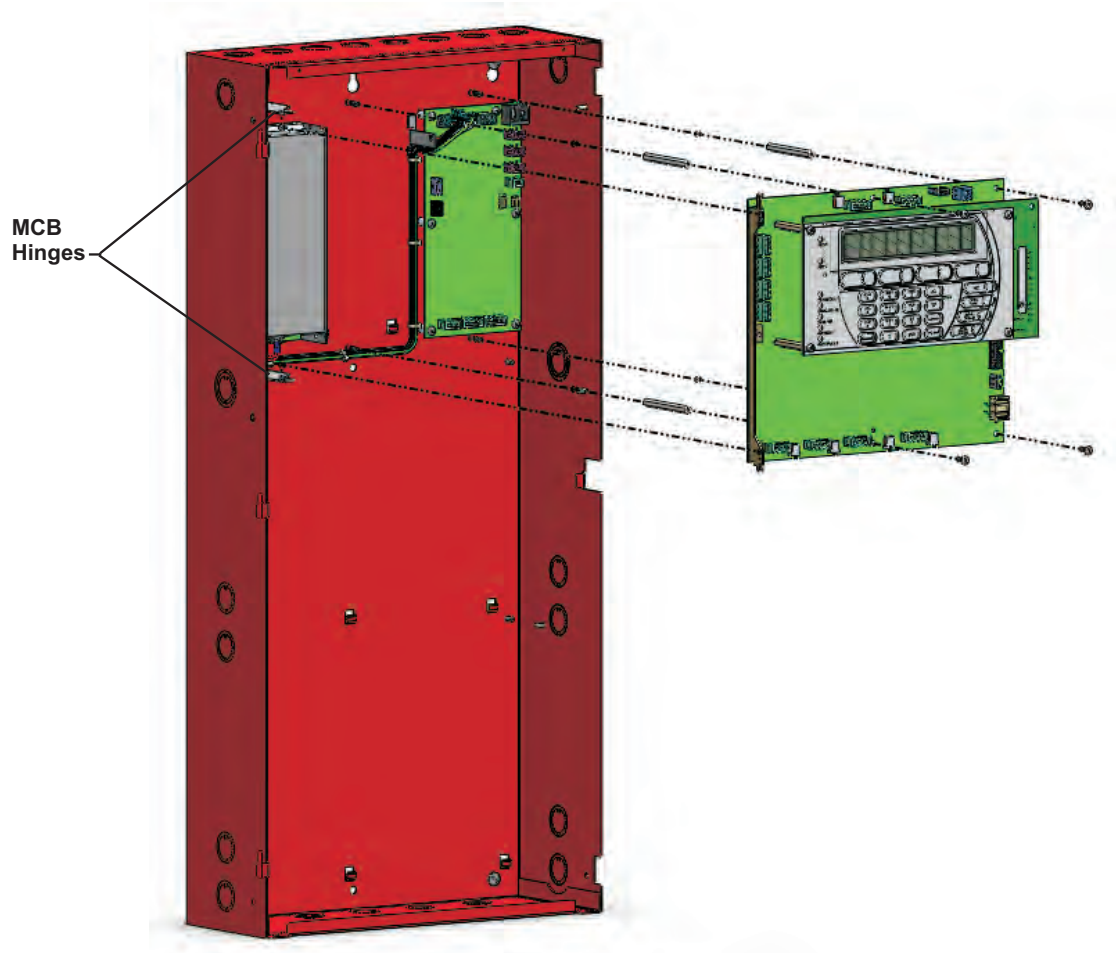

Figure 2-13. Installing A Main Controller Board with Keypad/Display into the Enclosure Top Tier
4. Locate the four 2-1/4 in. aluminum standoffs in the hardware kit and, using a nut driver, screw one securely into each of the four threaded studs in the back surface of the enclosure. Refer to Figure 2-13.